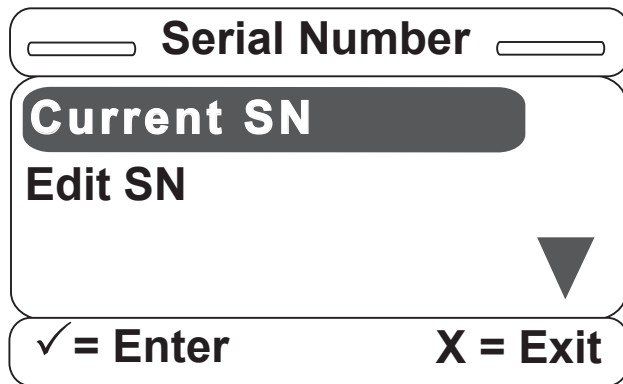

Figure S-19
19. There are two options available, as shown in Figure S-19. The Current SN item will display the saved serial number, while the Edit SN item will allow the user to edit the existing serial number.